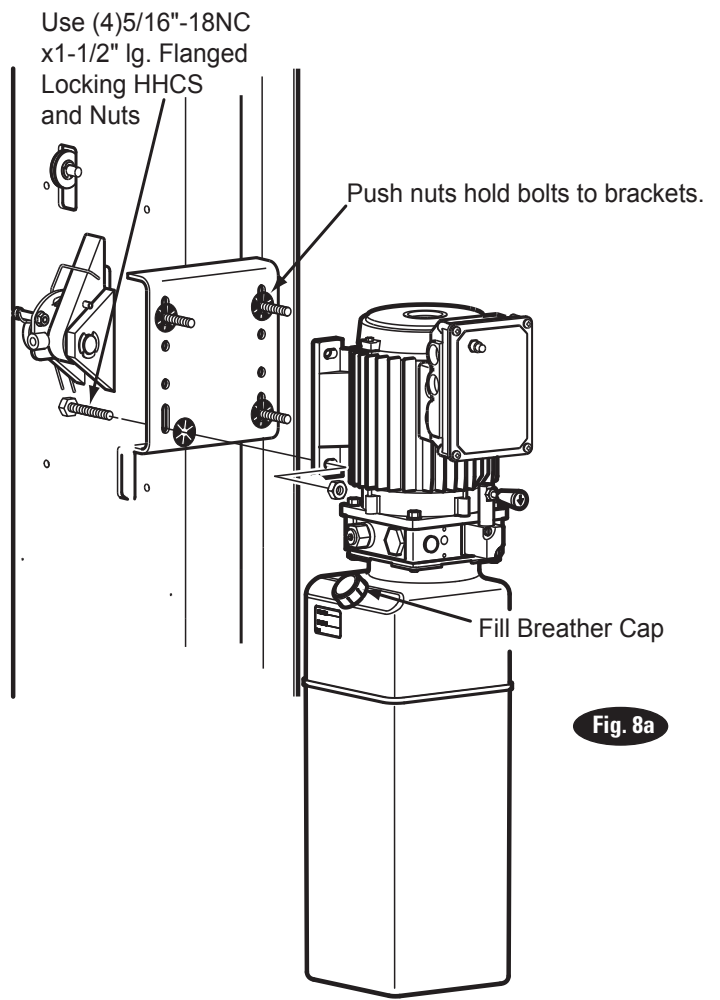

Fig. 8a
9. Power Unit: Put the (4) 5/16"-18NC x 1-1/2" flanged locking HHCS thru holes in power unit bracket using Push-Nuts to hold in place, Fig. 8a. Mount unit with motor up to column bracket and install (2) 5/16" Flanged locking Nuts. Install and hand tighten Branch Tee to pump until O-ring is seated. Continue to tighten the locknut to 10-15 ft-lbs., or until the nut and washer bottom out against the pump manifold. **NOTE:** You may still be able to rotate the Branch Tee. This is acceptable unless there is see page at the O-ring. If so, slightly tighten the locknut.
15. Oil Filling & Bleeding: Use Dexron III ATF, or Hydraulic Fluid that meets ISO 32 specifications. Remove fill-breather cap, Fig. 8a. Pour in (8) quarts of fluid. Start unit, raise lift about 2 ft. Open cylinder bleeders approximately 2 turns, Fig. 9a.